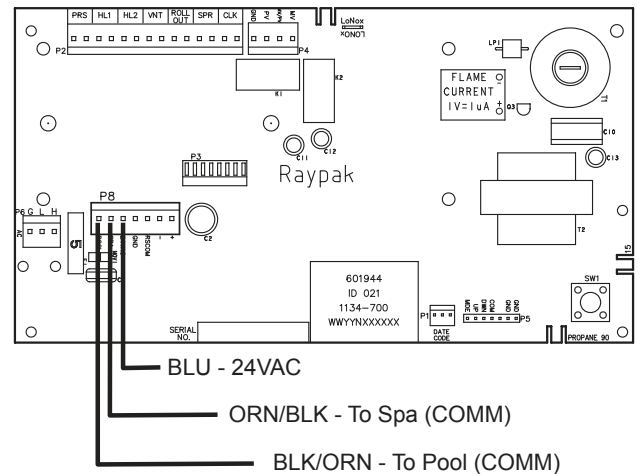

Figure 55. 3-Wire Remote Harness Installation on the P8 Connector of the Board
- Install the “Remote Interface Harness” to the P8 connector and turn power ON to the heater. See **Figure 55**.